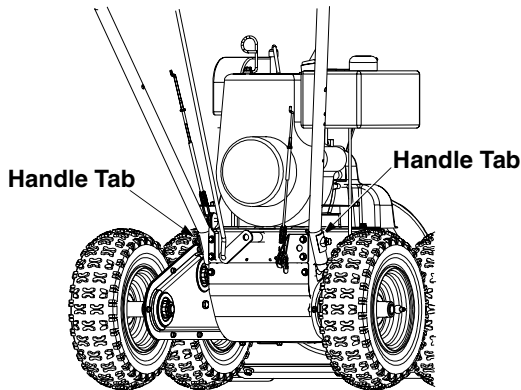

Figure 2
- Secure bottom hole in the handle to the snow thrower using 5/16 x .75" hex bolt and lock washer from the hardware pack (group A on page 5 ). Do not tighten at this time. See Figure 2.
- Place a handle tab, included in the hardware pack (group A on page 5), over the upper hole in handle so that the contour of the handle tab matches that of the handle. See Figure 2.